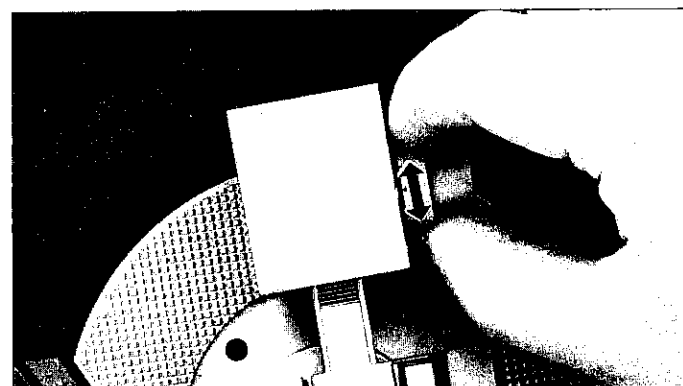

Figure 13
5. Rotate the tracking force gauge with your fingers till "0" graduation aligns with a mark on the counterweight (See Figure 13).